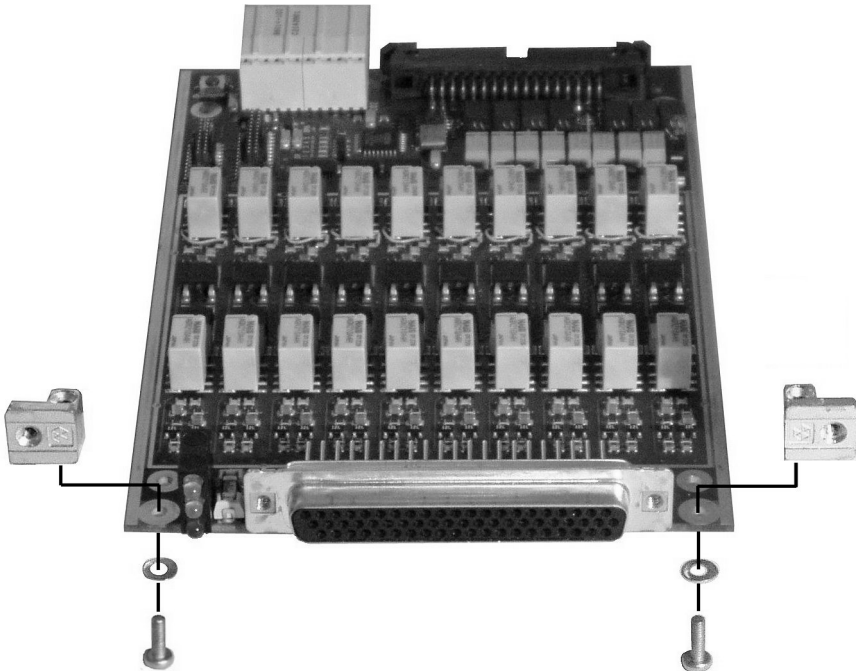

Fig. 4-1 Tightening the Printed Board Brackets
- Tighten the printed board brackets as shown in Fig. 4-1 with the Pozidrive flathead screws M2.5x10 provided on the module.